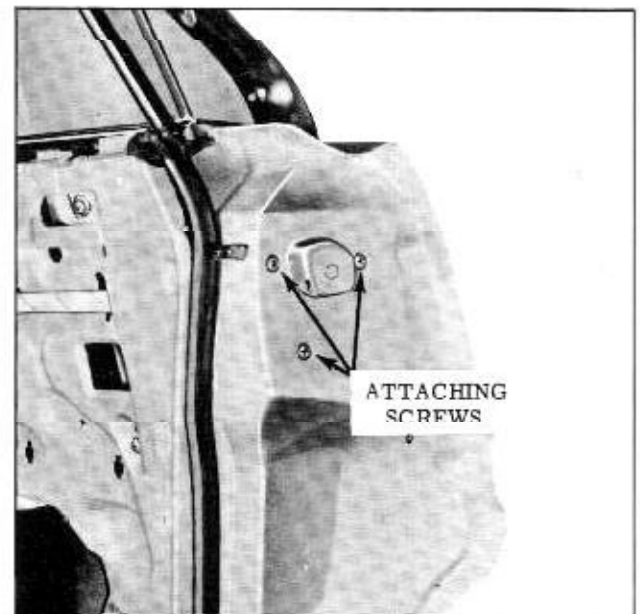

Fig. 17-47 Rear Door Lock Assembly
4. At lock pillar facing, remove door lock attaching screws and remove lock assembly through access hole. (Fig. 17-47)